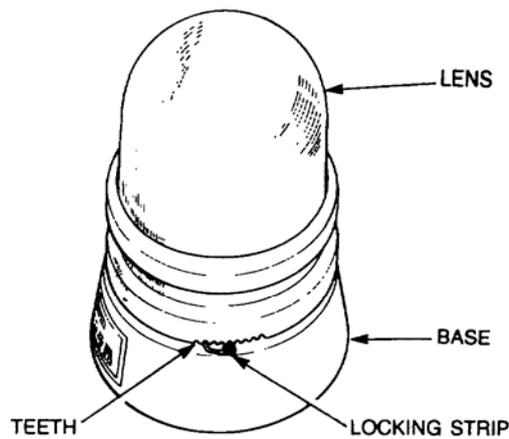

Figure 14 Rotating Beacon Light Lens Removal
- c. Using a small bladed screwdriver, press down the locking strip (refer Figure 14).
- j. Turn the lens in a clockwise direction and allow the locking strip to engage the teeth located on the lens (refer Figure 14).
- d. Using a small bladed screwdriver, press down the locking strip (refer Figure 14).